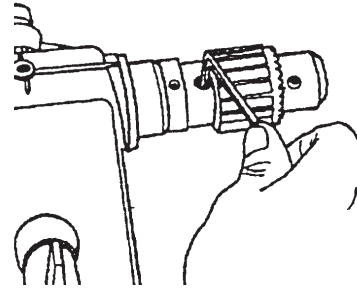

Figure 106
2. Mount the Drill Chuck on the Spindle, as shown in Figure 106.